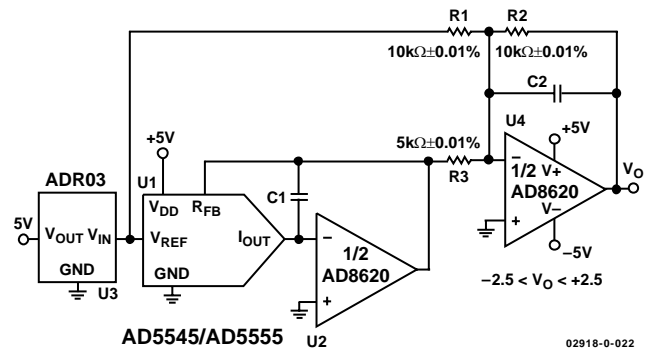

Figure 23. Four-Quadrant Multiplying Application Circuit
In some applications, it may be necessary to generate the full 4-quadrant multiplying capability or a bipolar output swing. This is easily accomplished by using an additional external amplifier, U4, configured as a summing amplifier (see Figure 23). In this circuit, the second amplifier, U4, provides a gain of 2, which increases the output span magnitude to 5 V. Biasing the external amplifier with a 2.5 V offset from the reference voltage results in a full 4-quadrant multiplying circuit. The transfer equation of this circuit shows that both negative and positive output voltages are created because the input data (D) is incremented from code zero ( $V_{OUT} = -2.5$  V) to midscale ( $V_{OUT} = 0$  V) to full scale ( $V_{OUT} = +2.5$  V).